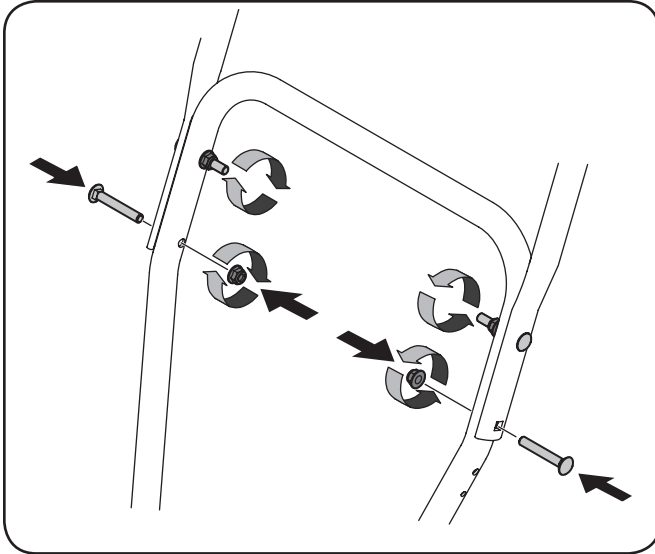

**Figure 3-4**
4. Reattach the two carriage screws and lock nuts removed earlier as shown in Figure 3-4.